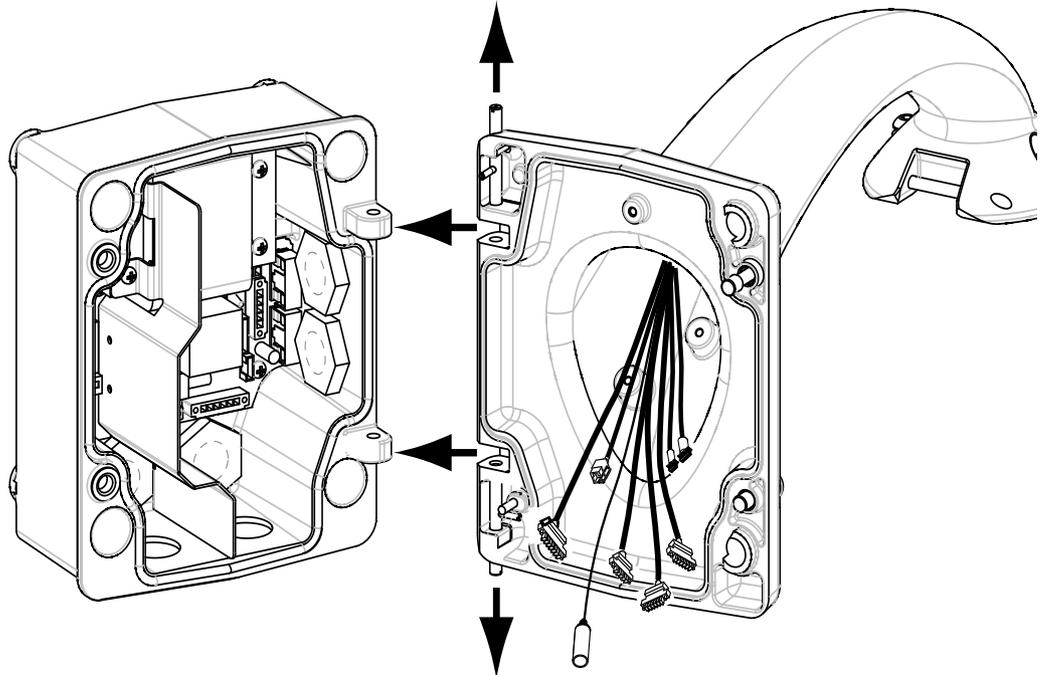

Figure 2.10 Pendant Arm to Power Box Hinge Alignment
3. While continuing to hold the top hinge pin open and align the top and bottom hinges of the Pendant Arm to their mating points on the Power Supply Box. See *Figure 2.10*, above, for an illustration.